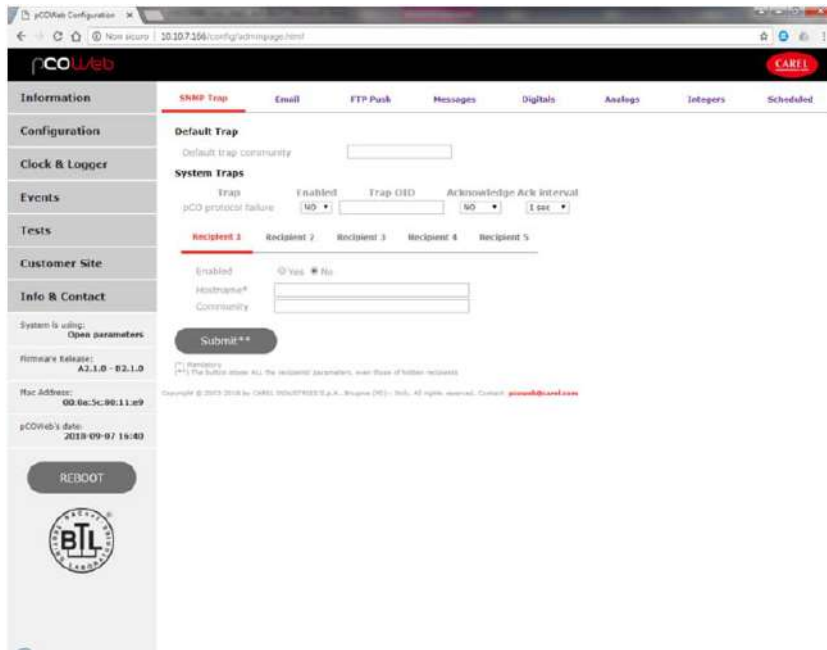

Figure 4.n - Notification events page
- From the *pCOWeb* main page open the “Events” page (Figure 4.n).
- Figure 4.o, Figure 4.p and Figure 4.q) contain the common settings for all the events generated.